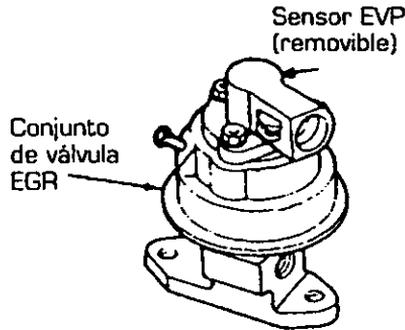

FIG. 10.4 VÁLVULA VACUO-ELÉCTRICA.
**Válvula vacuo-eléctrica EGR (EGRV) (Fig. 10.4).** (EGR solenoid vacuum valve assembly).